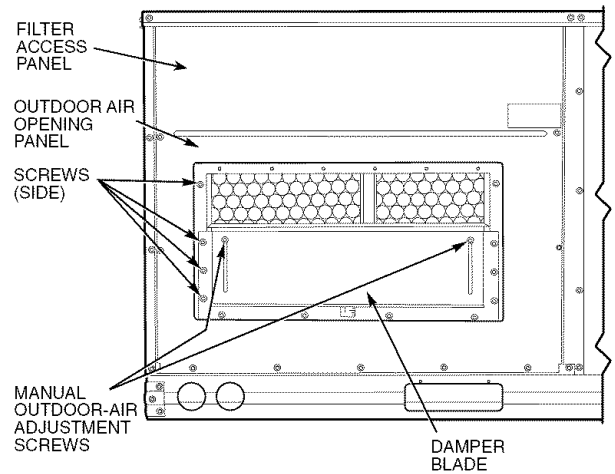
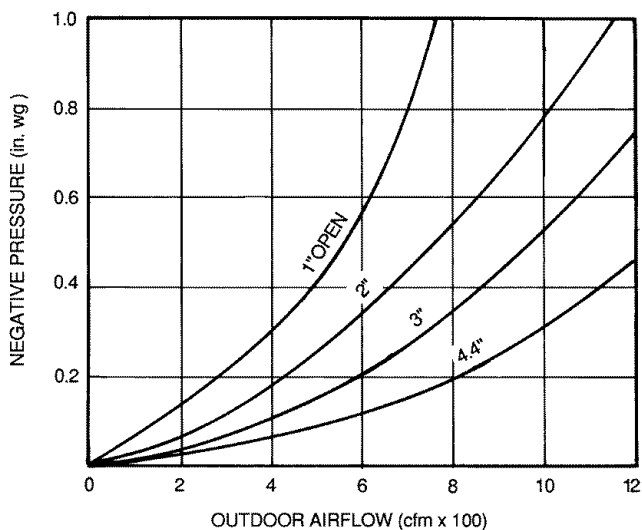

Fig. 12 — Damper Panel with Manual Outdoor-Air Damper Installed
Fig. 15 — Outdoor Air Damper Position Setting
2. Remove the filter access panel by raising the panel and swinging it outward. The panel is now disengaged from the track and can be removed. No tools are required to remove the filter access panel. Remove the outdoor-air opening panel. Save the panels and screws. See Fig. 12.
8. Adjust the minimum position setting of the damper blade by adjusting the manual outdoor-air adjustment screws on the front of the damper blade. See Fig. 12. Slide the blade vertically until it is in the appropriate position determined by Fig. 15. Tighten the screws.